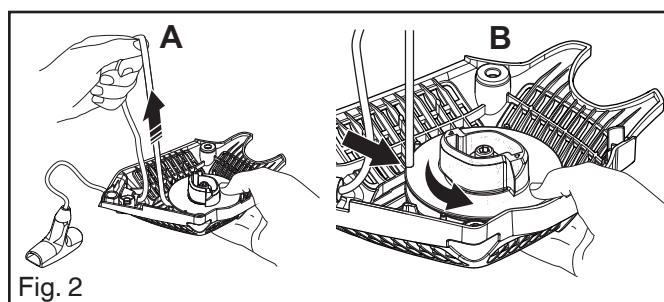

Fig. 2
6. Attach the antivibration element. See Figure 2 and 1.
2. Pull out the handle 20-30 cm (A) and take out the cord from the slot in the starter pulley (B). See Figure 2.
3. Rotate the starter pulley anticlockwise until the tension on the pulley is released. See Figure 2.